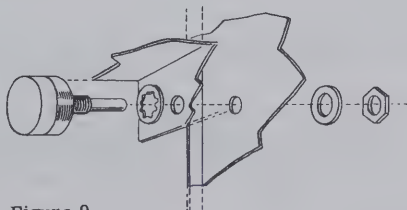

Figure 9
- (✕) Mount the sensitivity control in location M. See Figure 9 for details of hardware assembly. Keep the lugs exactly as indicated in Pictorial 3. On some controls, a small locating lug protrudes from the front of the control housing. If this interferes with the mounting, cut it off or bend it over.
- (✕) Mount the phone jack (see Figure 9 and Pictorial 3) in location L. Keep all lugs oriented exactly as indicated.
- (✕) Attach the free end of the 1 1/2" lead from M3 to the ground lug of the 1-lug and ground terminal strip (NS).
- (✕) Attach the free end of the 47 K Ω resistor (yellow-violet-orange) to terminal strip E2 (NS).
- (✕) Attach the free end of the 1 K Ω resistor (brown-black-red) to lug L2 (NS) on the phone jack. Be sure to use the previously prepared insulated sleeving.